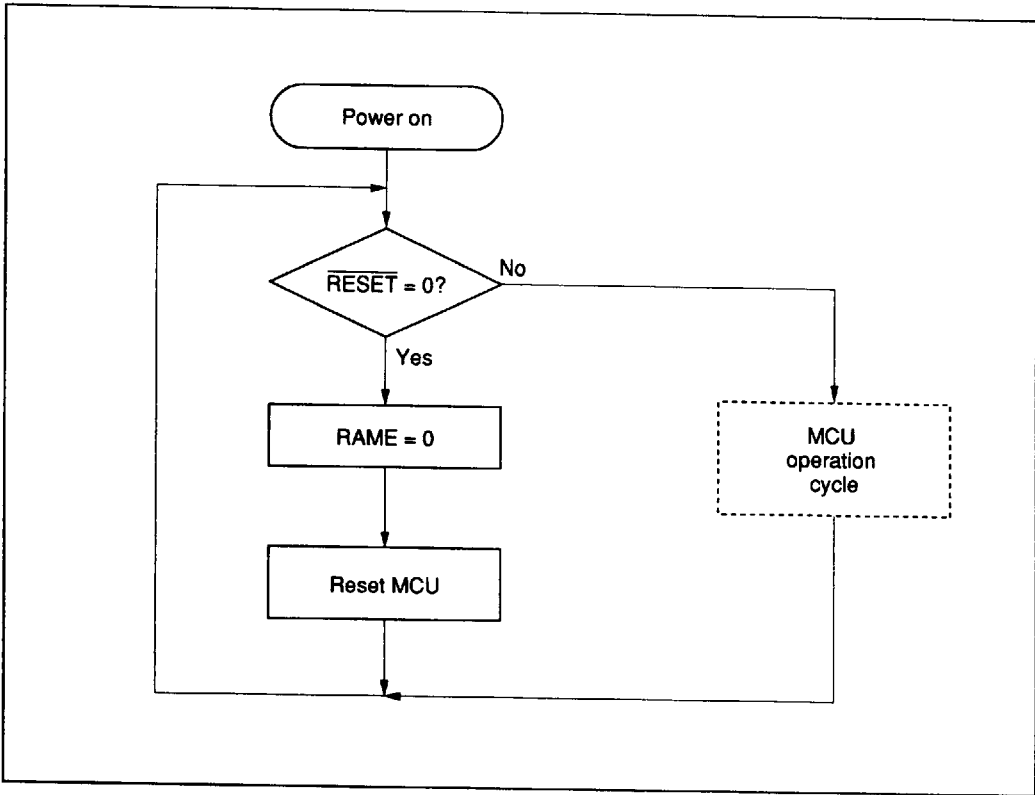

Figure 14 MCU Operation Sequence (Power On)
**MCU Operation Sequence:** The MCU operates according to the flowcharts shown in figures 14 to 16. Since  $\overline{\text{RESET}}$  is asynchronous input, the MCU will be reset in any mode that the MCU is operating in.